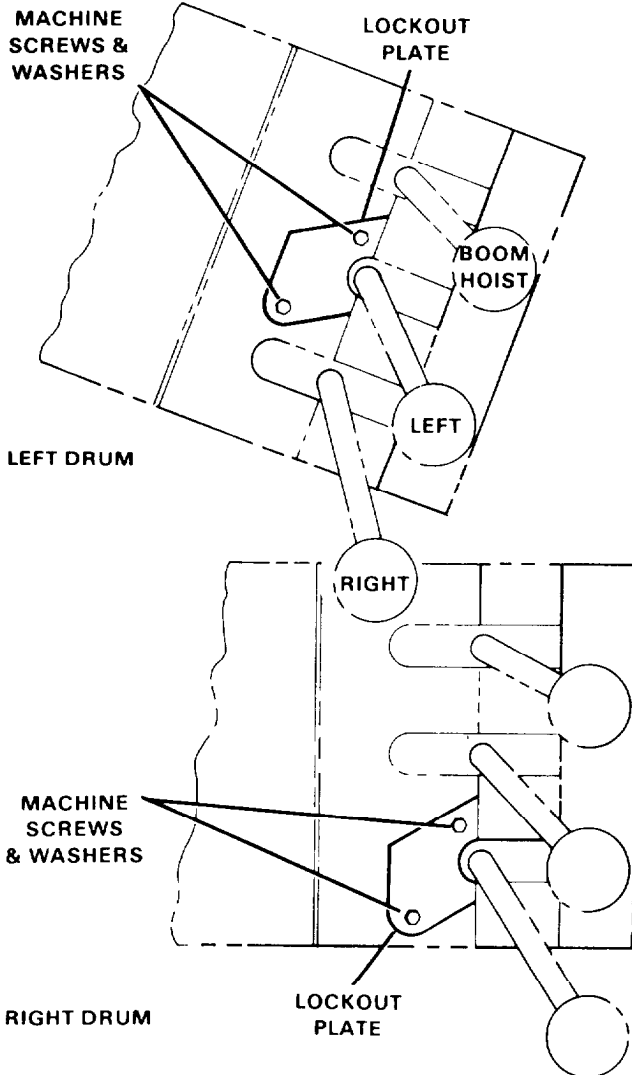

Figure 2-4. Planetary Lowering Lockouts
48. PLANETARY LOCKOUTS. Use these plates as shown in Figure 2-4 to prevent the left and right drum controls (Items 06 and 08) from being moved forward. This locks out the